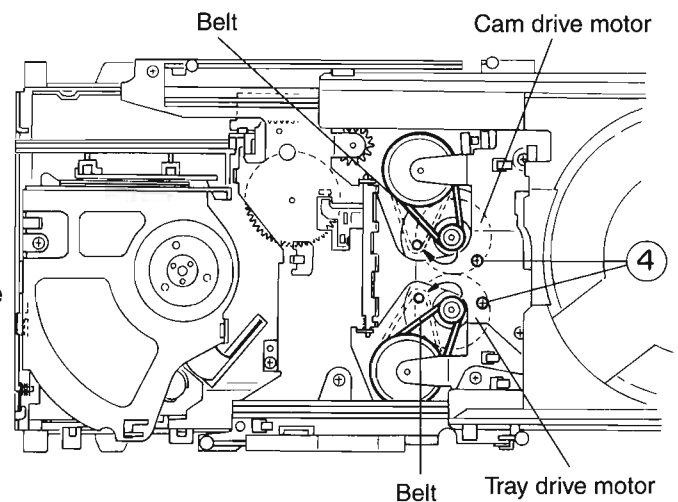

Fig. 9
3. The two bolts which have been dismantled from the tray & cam drive motor should be hanged again to the motor pulley as shown in Fig. 9.
4. Remove the two screws ④ retaining the tray & cam drive motor (see Fig. 9).